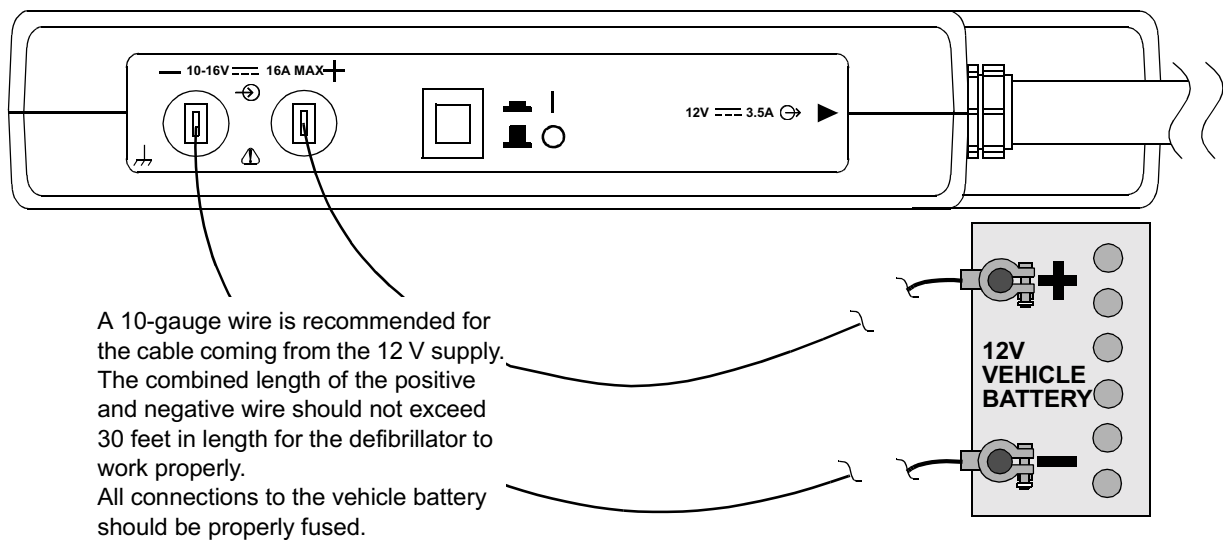

Figure 7-6 Battery Cable Installation for DC Power Adapter
- 1 Connect the vehicle battery cables to the DC Power Adapter. (Refer to Figure 7-6.)
- 1 Connect the positive and negative terminals from the cable (see Figure 7-6) to their respective positive and negative terminals on the vehicle's 12-volt battery (see Figure 7-6 for description of the cable).